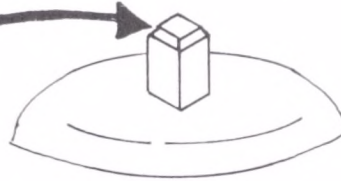

FIG. 2
- 2. Inspect the drive stud for wear. (*Figure 2*) If drive stud is worn, replace it with a new one.